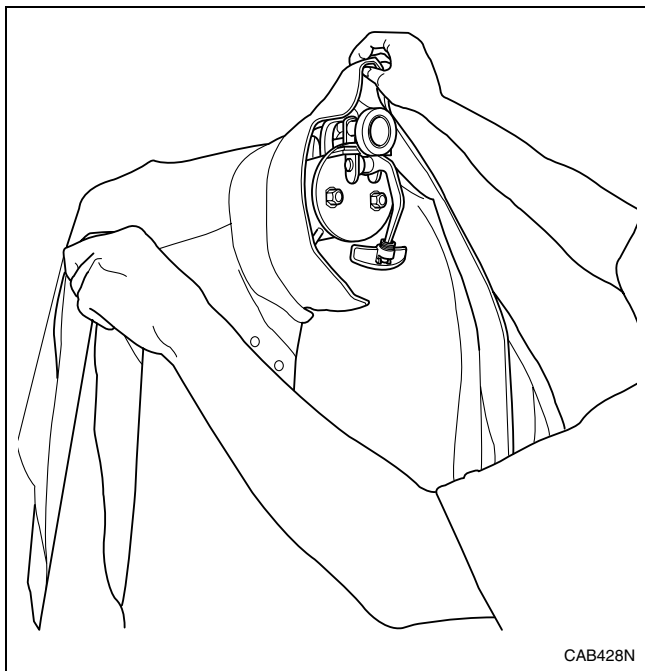

Figure 19
- Using your left hand, grasp the left sleeve just next to the yoke. Pull the shirt to your left and off the buck. As the right side of shirt clears the buck, position the fingers of your right hand so they catch the left side of shirt and slide to the right of the yoke. This opens the shirt and supports it so it can easily drape over collar form. Refer to *Figure 19*.